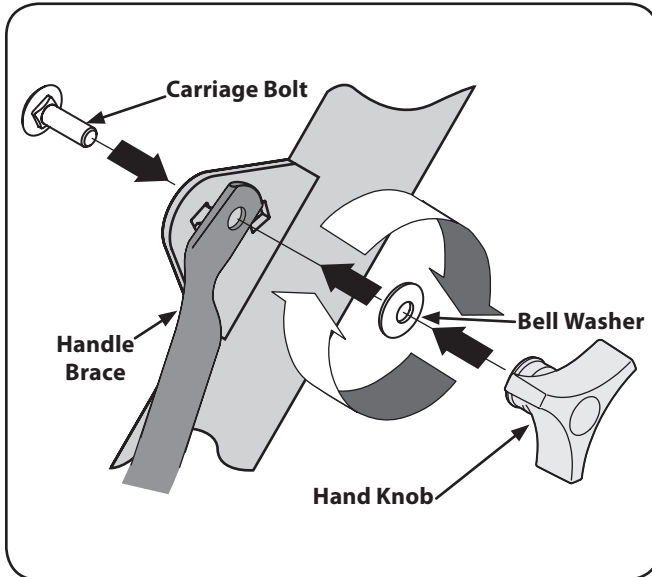

Figure 3-4
- Tighten the bolt securely after securing the handle brace as seen in Fig. 3-4.
- Insert the carriage bolt through the welded bracket on the handle, bell washer, handle brace and into the hand knob. See Fig. 3-4.
- Select one of the three handle height positions (three notches in the welded handle bracket) and tighten the hand knob to secure the handle in the desired position. Fig. 3-4. Return to the lower handle and tighten the hex bolt securely.